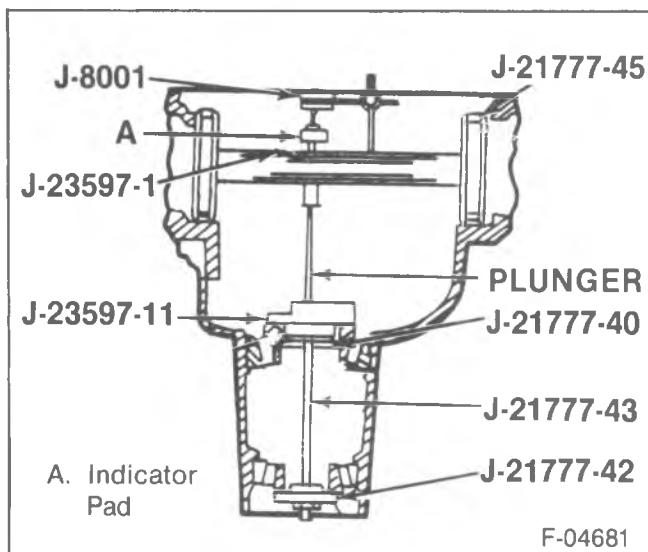

Figure 9—Pinion Depth Tools
PINION DEPTH ADJUSTMENT (Figure 9)
3. Place the bearings (15) and (18) into the pinion bearing cups.
4. Install J-21777-40, J-21777-42, J-21777-43 and J-23597-11 to the pinion bore (figure 9).
8. Assembly J-21777-45, J-23597-11, and J-8001 to the differential bearing bores as shown in figure 9.